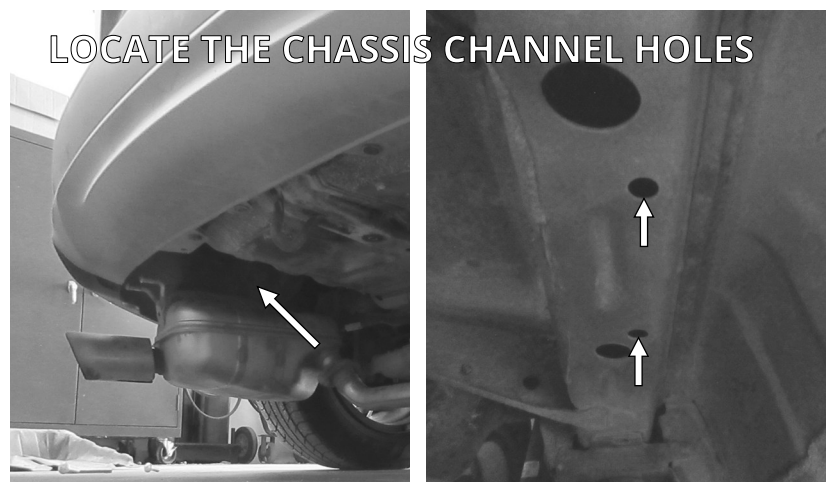

FIGURE A3: VIEW UNDER THE VEHICLE AND ABOVE MUFFLER
3. Under the rear of the vehicle, above the two rearward mufflers, identify the chassis channels where the holes for installing the side plates are located, see Figure A3.